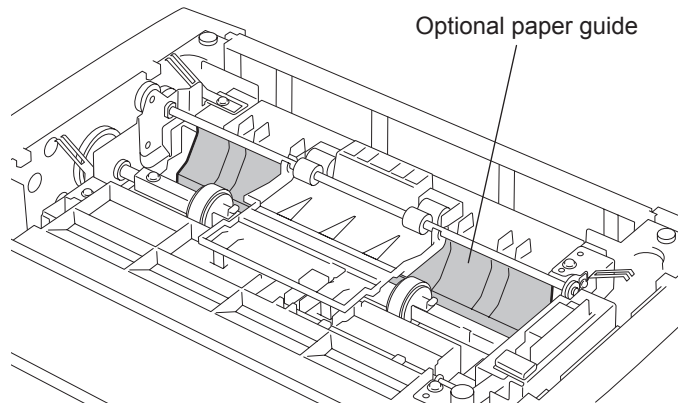

Fig. 10-22
- 15) Optional paper guide (P.10-14 "Fig. 10-22")